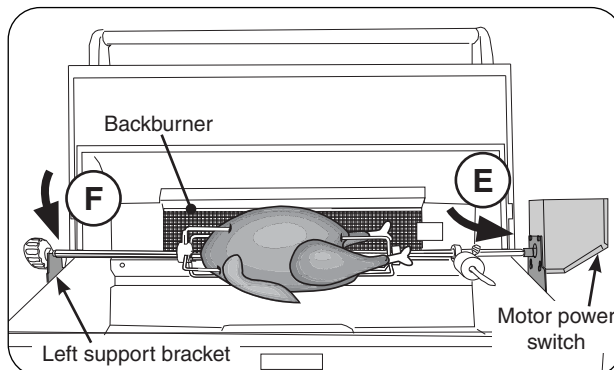

Fig. 3-4 Attach Rotisserie rod to motor
11. Insert the pointed-end of the rod into the motor drive socket (see Fig. 3-4, E). Then rest rod groove (next to the knob) into the left support bracket (see Fig. 3-4, F).